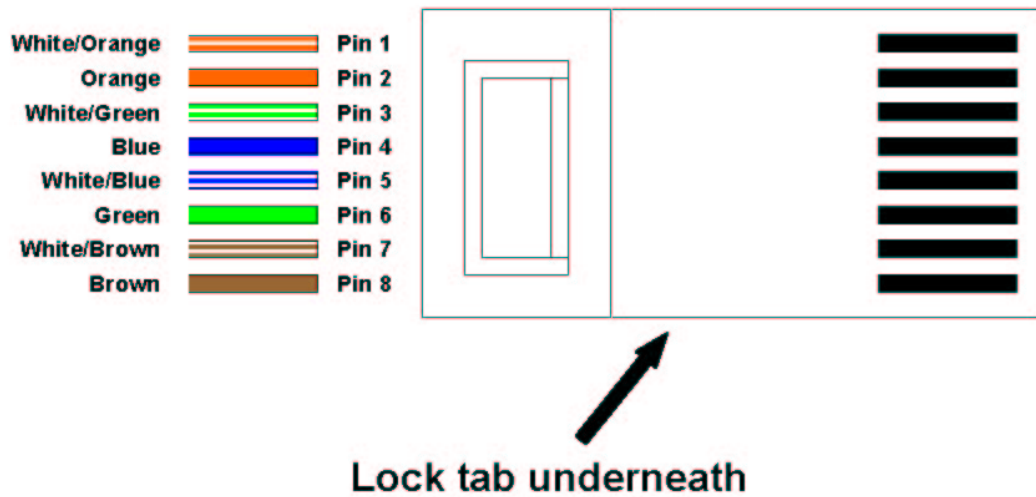

Figure 19 - RJ45 Pin Connection
Step 3: Arrange conductors as shown in Figure 19 and cut to length